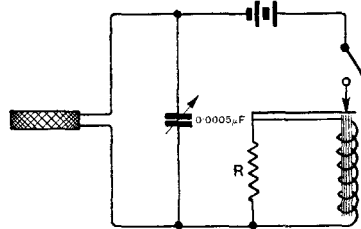

Fig. 1.
Referring to Fig. 1, it will be seen that the oscillatory circuit is connected in series with the battery and buzzer. Experience has shown that this is the best method of energising the oscillating circuit. On short wavelengths, when a plug-in coil having only a few turns is in use, there will be no difficulty in passing the current required by the buzzer, but it may be found when operating on higher wavelengths that the resistance of the tuning coil is too high. In this case it will be necessary to augment the number of cells used in the buzzer battery. The wavemeter will operate satisfactorily only if there is no sparking at the buzzer contacts. In order to prevent sparking, a non-inductive resistance (R) is connected across the buzzer windings. For most of the types of buzzer in common use, a resistance of approximately 25 ohms will be satisfactory. This may consist of a piece of No. 32 D.S.C. Eureka resistance wire 10 ft. in length. The wire may be bent to form a 5 ft. double length, which should be wound on to a small bobbin, leaving the two ends free for connection to the buzzer winding.
Fig. 1. The glow discharge microphone, in which the sound waves cause the spark discharge taking place between the electrodes to change its path, producing variations in the resistance of the circuit.
A microphone which has been developed in America by Dr. Phillips Thomas and known as the "Glow Discharge Microphone" operates on this principle. An illustration of this type of microphone is given in Fig. 1, and a description appeared in the issue of this journal for March 24th, 1923. In this instrument an electric discharge takes place between the two electrodes which are adjusted to very close proximity. The